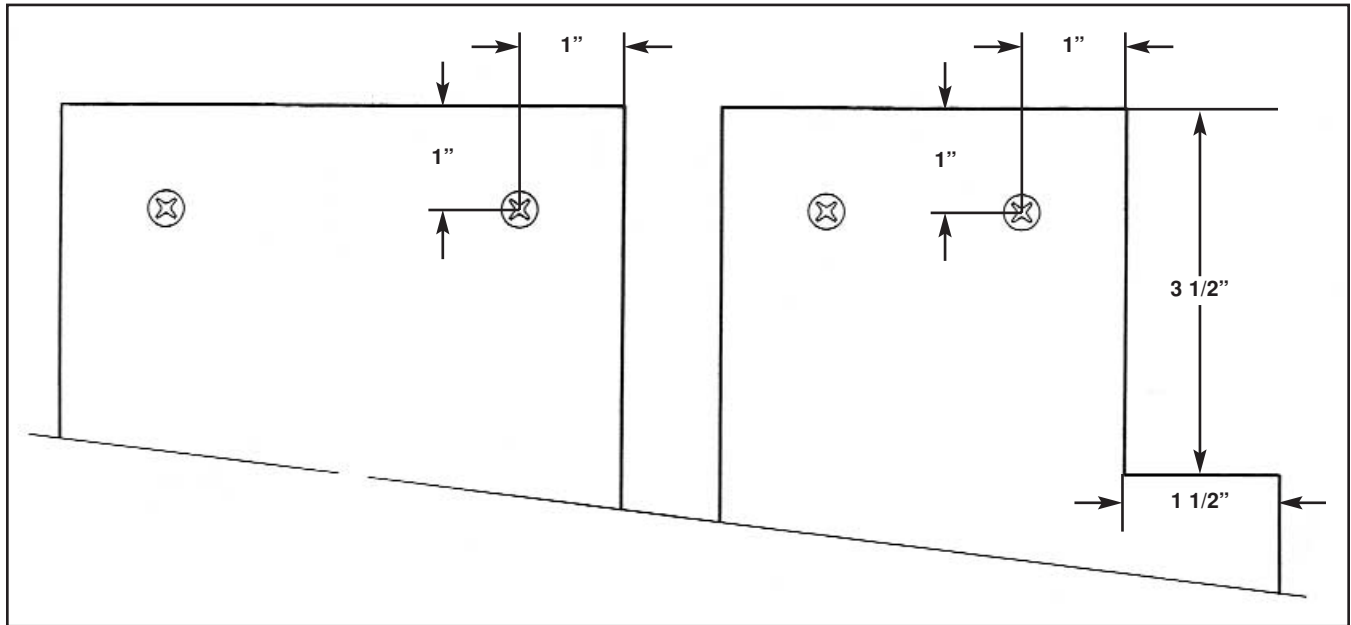

Figure 9
4. Drill holes in boards (I). Notch one of the (I) boards for board (E). Refer to Figure 9.